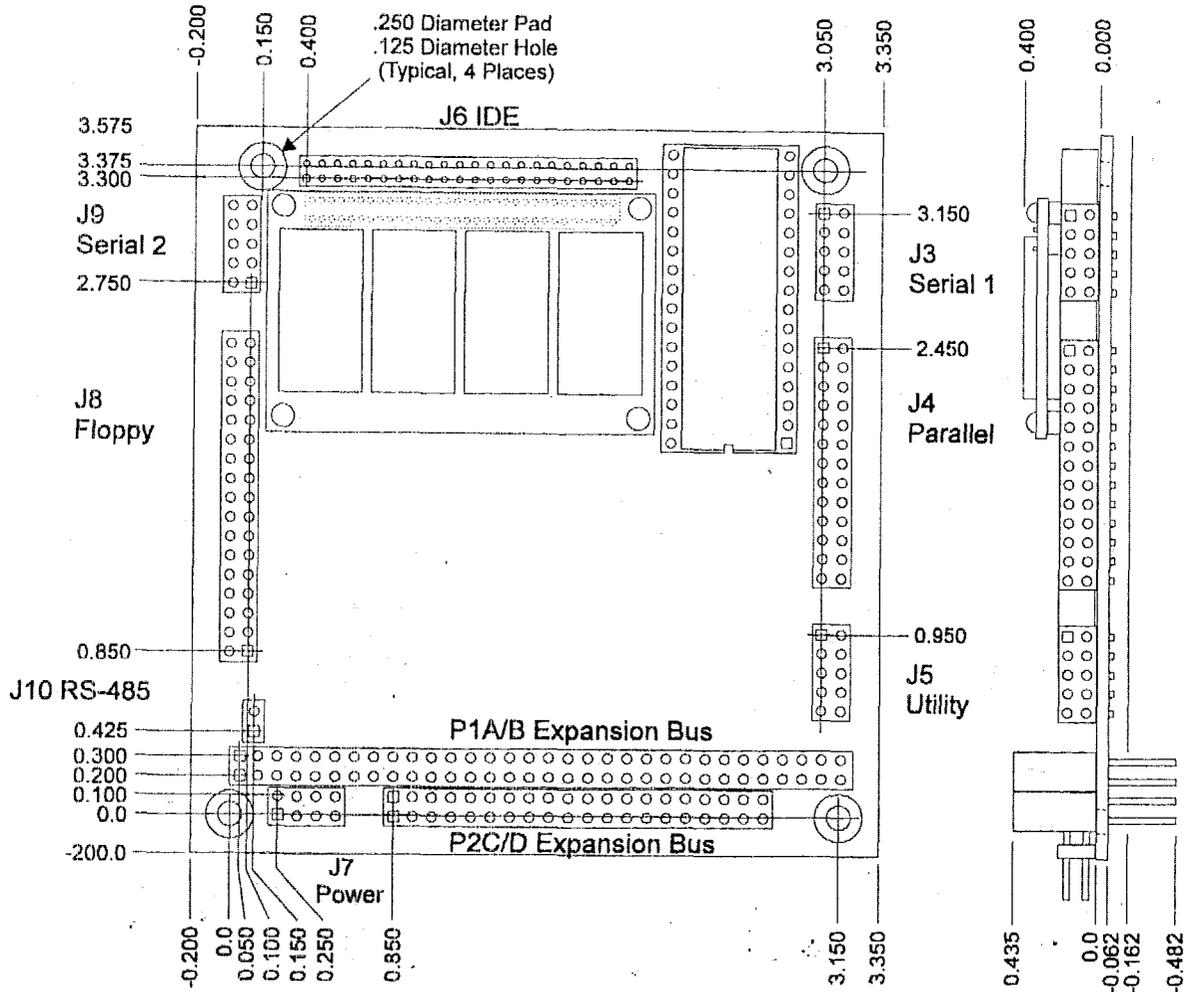

Figure 1-1. Mechanical Dimensions
- Board Envelope: 3.6 x 3.8 x 0.92 inches (90.2 x 95.9 x 23.4 mm.). Refer to Figure 1-1 for mounting dimensions.